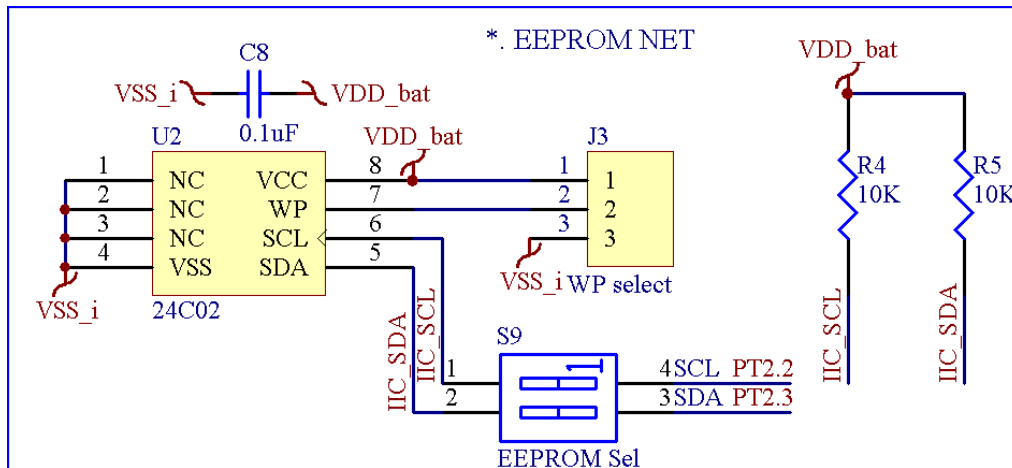

Figure 15
- ◆ U2: EEPROM 24C02, as shown in Figure 15.